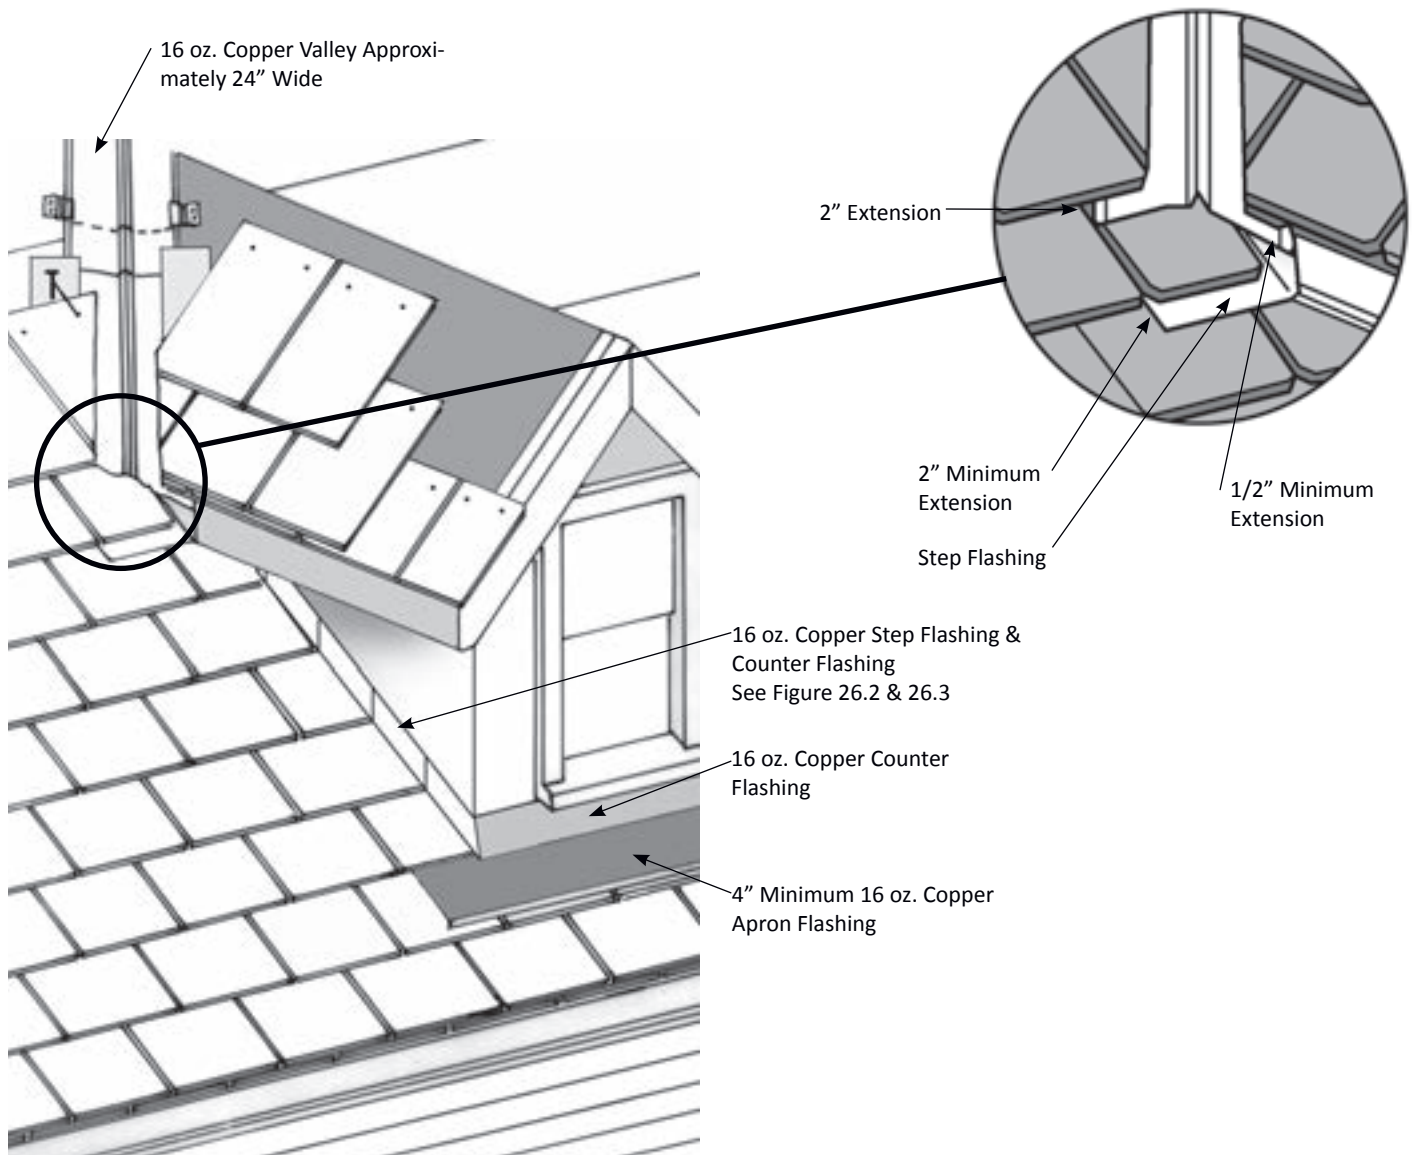

Figure 27.1 Open Valley at Main Roof to Dormer Juncture
1. The main roof tiles should be installed to just above the lower end of the valley, where the valley and the main roof intersect. Along the roof and wall juncture, step or channel flashing must be used and the last tile in the course should fit closely against the wall of the dormer (see Figure 27.1).